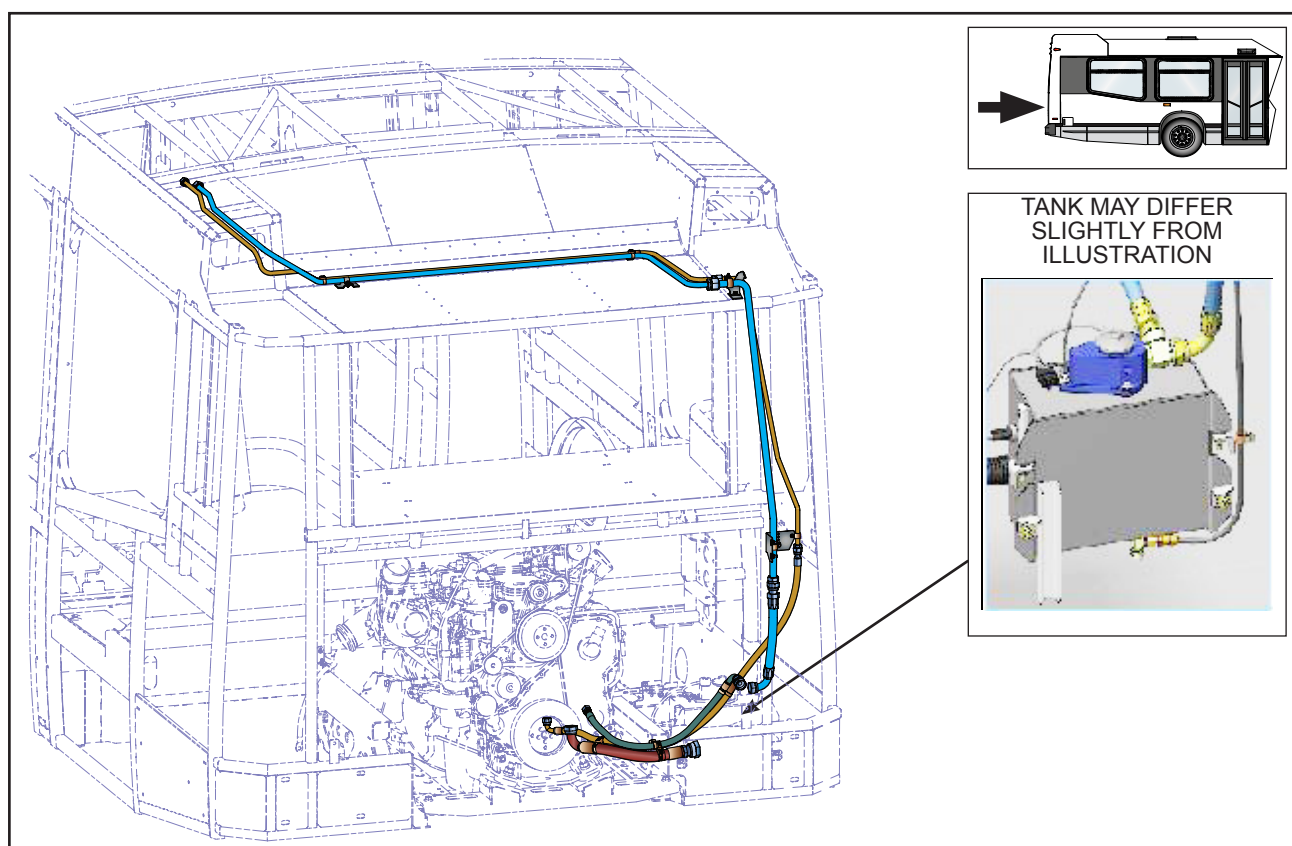

Figure 1 - Hydraulic Tank Location
- 1.1. Drain hydraulic fluid using drain plug located under the hydraulic tank. See Figures 1 and 2. Allow the hydraulic oil to drain into an appropriate container and keep for refilling. Refer to manual **section 09: Hydraulic System** for drain and fill procedures.